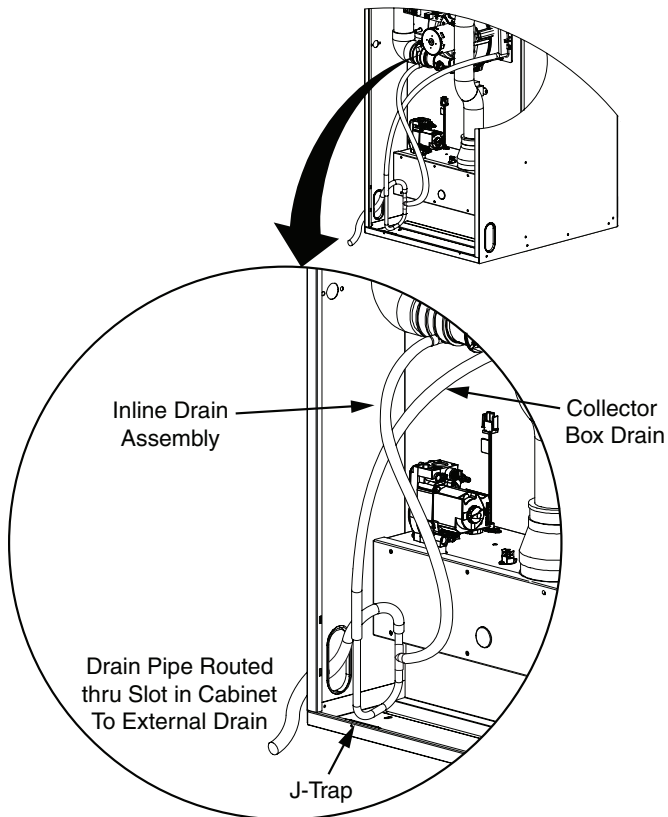

Figure 18. Condensate Drainage
- The condensate drain may exit through the left or right slots in the bottom of the furnace. See Figure 18. Make sure the flexible drain hose is not kinked.
1. Remove the collector box soft tube (Figure 18) and